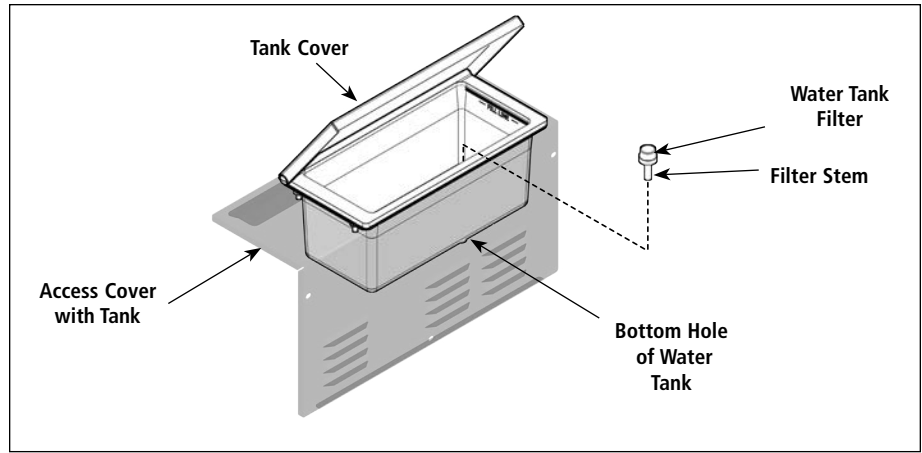

Figure 6. Water Tank Filter
6. Use a scraper or spatula to remove the excessive calcium/mineral buildup from the generator surface (Figure 6).
2. Open the tank cover (Figure 6).
5. Reinstall the filter stem into the bottom hole of the tank (Figure 6).